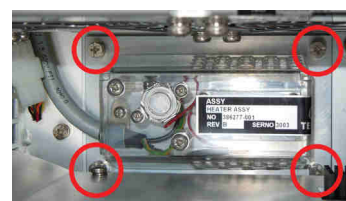

Fig. 10.47 Heater, screws
- 8 Using tool 9, remove four screws holding the Heater Assy - indicated in Fig. 10.47 \(p. 161\) and take it out while drawing the cable through the Crate Assy.